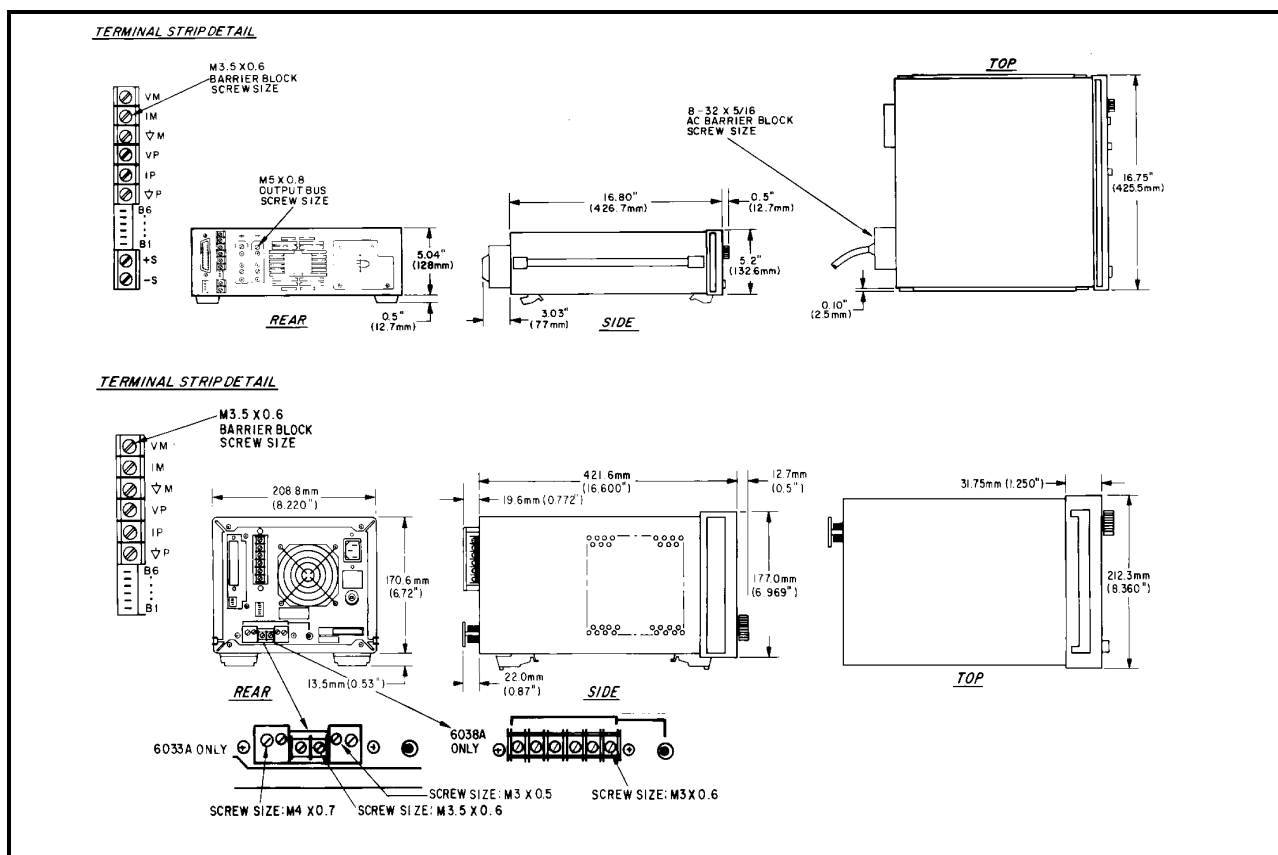

Figure 2-1. Outline Diagram
**Dimensions:** See Figure 2-1.
Figure 2-1 illustrates the outline shape and dimensions of the cabinet.